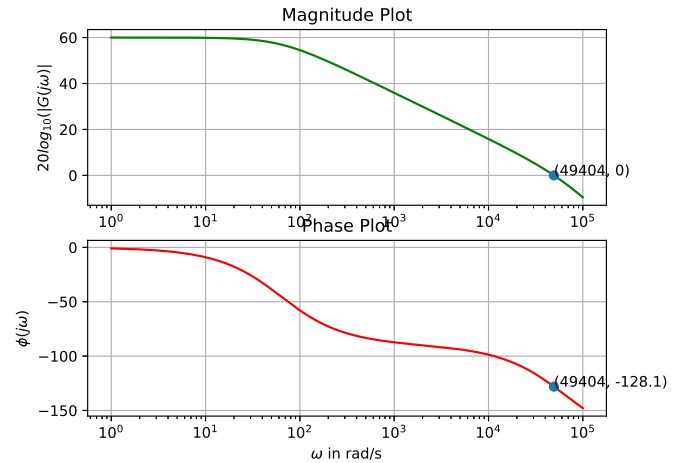

Fig. 4
**Solution:** The following code generates Fig. 4